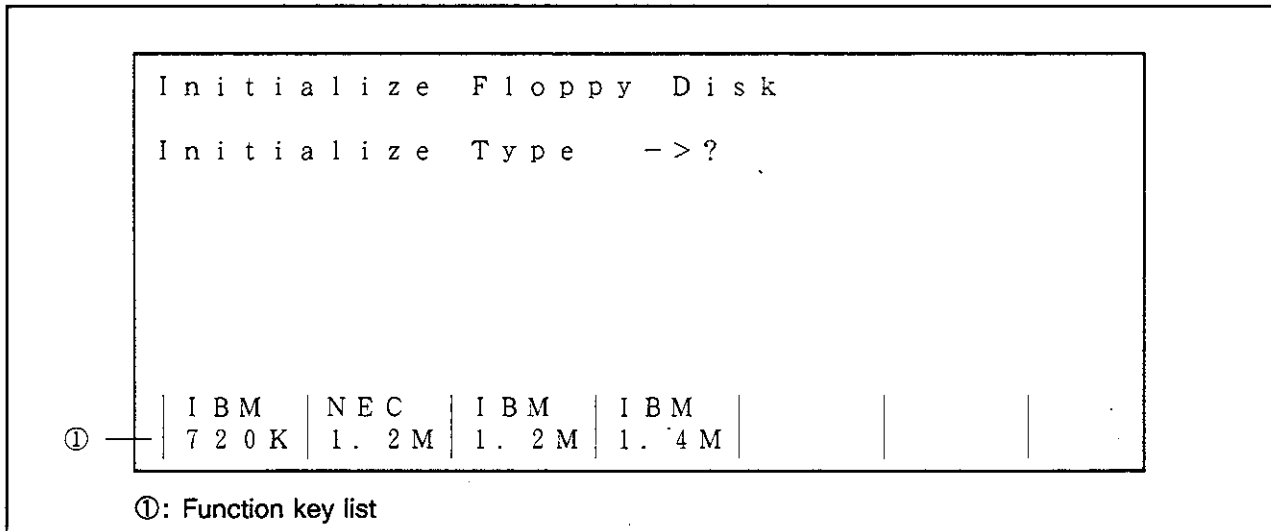

Figure 4-38 INIT Display Screen
①: The function key list indicates the function keys available by DRIV (drive operation).
(9) INIT (floppy disk initialization) screen
Pressing the INIT (K5: floppy disk initialization) key in the DRIV mode (see (8) in Section 4.2.1) causes a screen like that shown in Figure 4-38 to appear. (For details, see (7) in Section 4.1.4 "FILE Mode.")